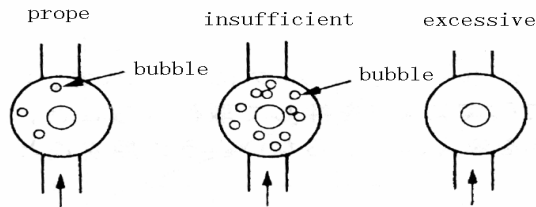

Fig. 21-3
- ①Start the engine.
- ②Turn on the A/C switch, and set the temperature selection dial to MAX COOL.
- ③Set the engine speed to 1500r/min.
- ④Check the refrigerant level (bubble state) through the sight glass.Refer to Fig. 21-3 and Table 21-9.
- ⑤Charge refrigerant as insufficient , and take back refrigerant as excessive.